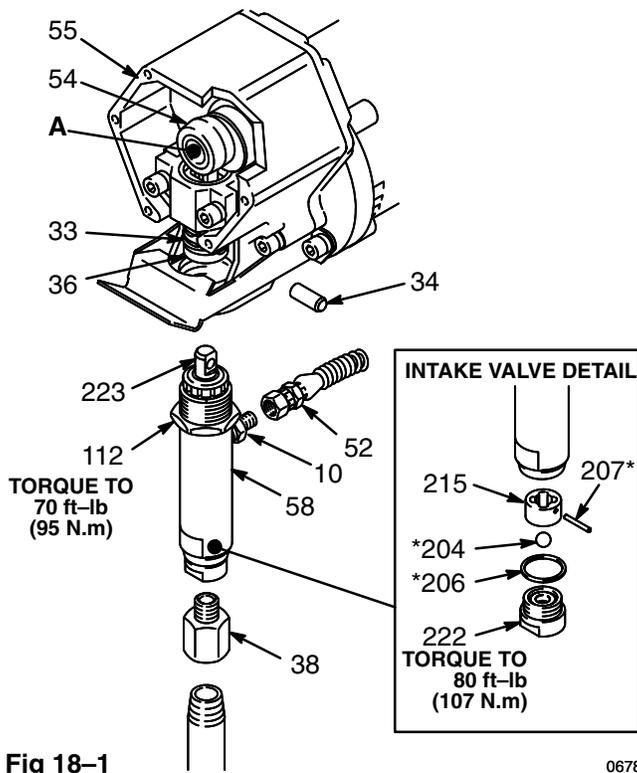

Fig 18-1
### Removing the Pump. See Fig 18-1.
### Reinstalling the Pump. See Fig 18-1.
Be sure the retaining spring (33) is firmly and completely in the groove of the connecting rod to prevent the pin (34) from working loose due to vibration. See Fig 18-1.
1. Remove and disassemble the intake valve (222). If no further service is needed, reassemble the valve, using a new gasket (206\*). Torque the intake valve to 80 ft-lb (107 N.m). See Fig 18-1.
2. Remove the packing nut (221) and plug (201).
3. Tap the piston rod (223) down with a plastic mallet. Pull the rod out the bottom of the cylinder (216).
4. Remove the packings and glands from the throat of the cylinder (216).
5. Clamp the flats of the piston rod (223) in a vise. Unscrew the retaining nut (214). Unscrew the piston valve (224) from the rod. Remove all parts from the piston.